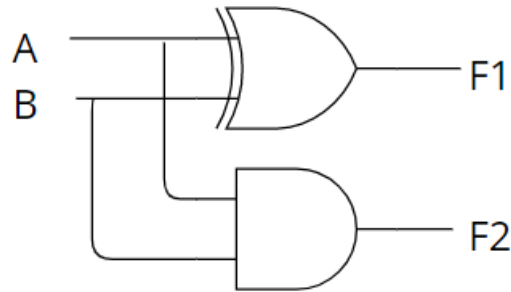

Figure 4.5: build circuit 3 using basic gates.
- c) Implement the following circuit in Figure 4.5 using basic gates and fill the truth table (Table 4.3).